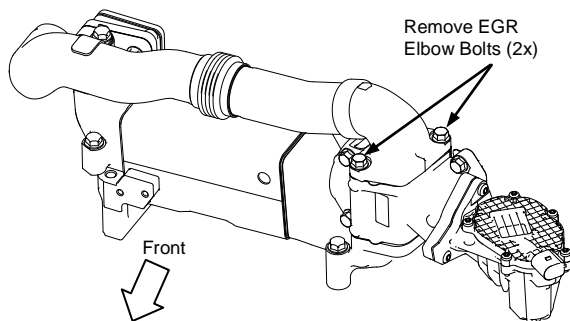

Figure 5.3
- ☐ Remove the two bolts holding the EGR elbow on the top of the engine. Discard these bolts as they will not be used again. Ensure the metal gasket stays in place. (Figure 5.3)